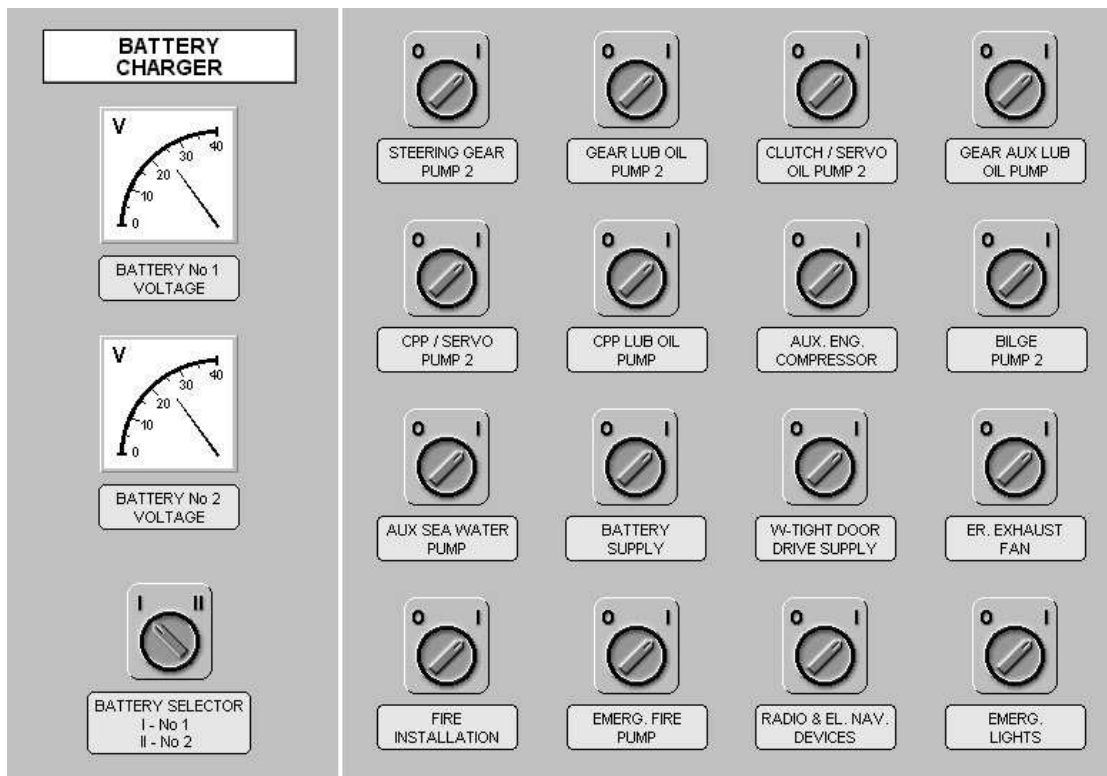

Fig. 4.22 Emergency switchboard
- f. emergency switchboard panel Fig. 4.22